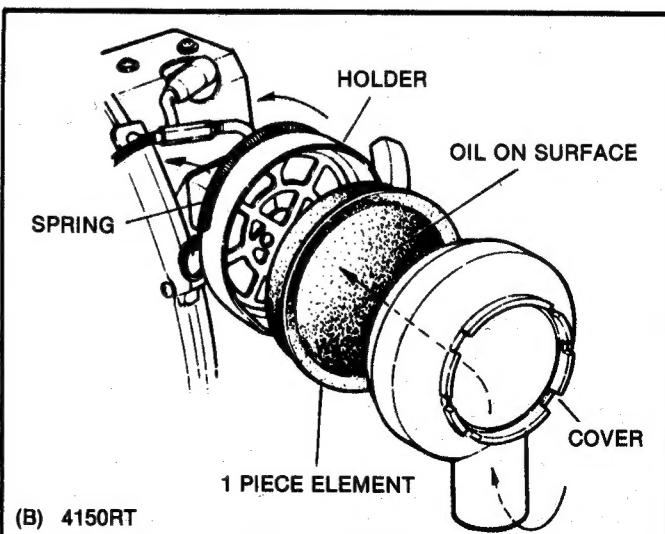

FIG. 9 - AIR CLEANER
Service the AIR CLEANER (1) more frequently than every 10 hours if the trimmer is operating in dusty/dirty conditions. Refer to FIG. 9 - (A) 24.1cc, (B) 40.6cc.